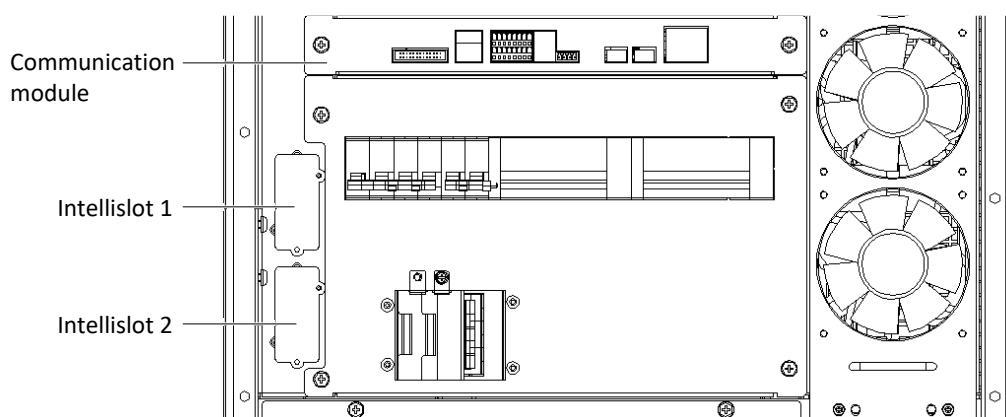

Figure 7-1 Intelligent card installation
The UPS provides two Intellislot ports (see Figure 7-1, taking 20kVA model for example) to install the intelligent cards on site. Open the front door of the UPS, you can see the protective cover located on the cabinet left side. Remove the protective cover to install communication device options, including SIC card, IS-UNITY-DP card, IS-UNITY-LIFE card, and IS-RELAY card.
2. Insert the intelligent card (along two sides of the Intellislot port) into the recommended port position in Figure 7-1, and fasten the screws.